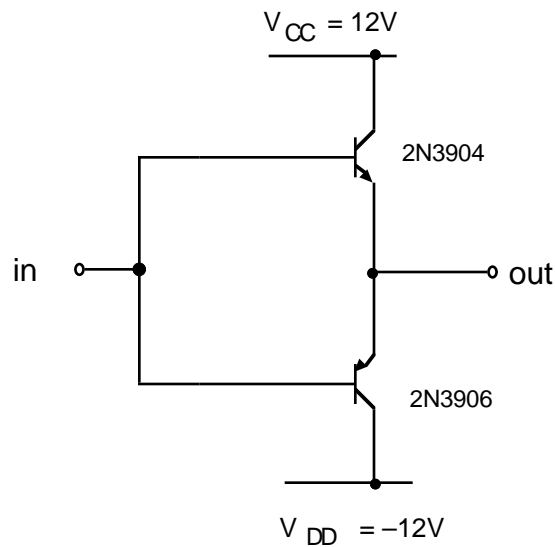

Fig 6.2
a) Build the push-pull emitter follower shown in Fig 6.2. Try to match the NPN/PNP transistor pairs.